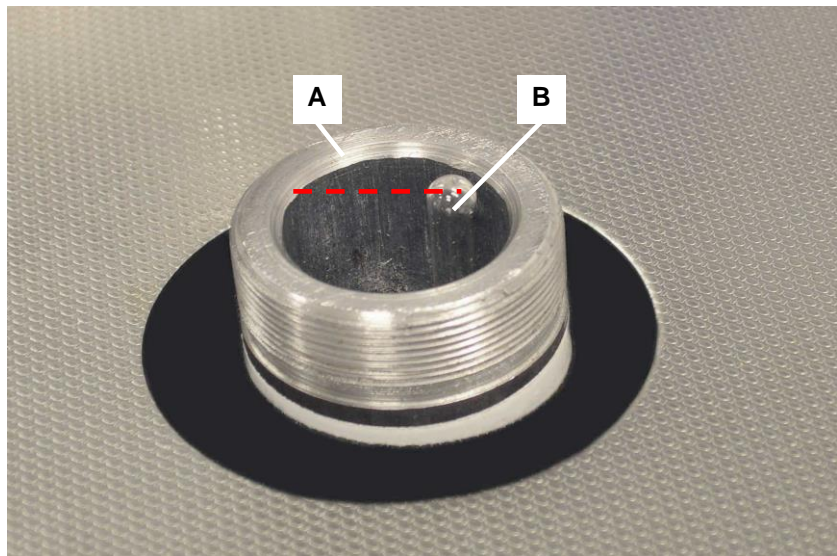

Fig. 6.4.1 Filling duct with glass floating body at correct filling level
- Filling level reactor** Check the reactor filling level: the glass floating body must be visible at the upper edge of the filling duct (*see fig. 6.4.1 in Section 6.4*). If necessary fill the missing quantity of distilled water.
At first, check the reactor filling level: An overfilling is indicated by the position of the glass floating body (*fig. 6.4.1.B*) in the filling duct (*A*).
Check the position of the glass floating body in the reactor (see *Section 6.4 fig. 6.4.1*).